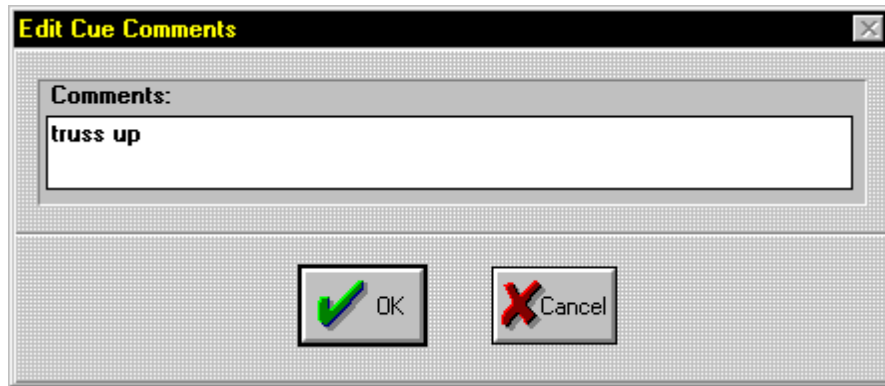

Figure 8.76. Edit Cue Comments Dialogue Box
2. Double click the **Comments** field to bring up the **Edit Cue Comments** dialogue box. Refer to Figure 8.76.